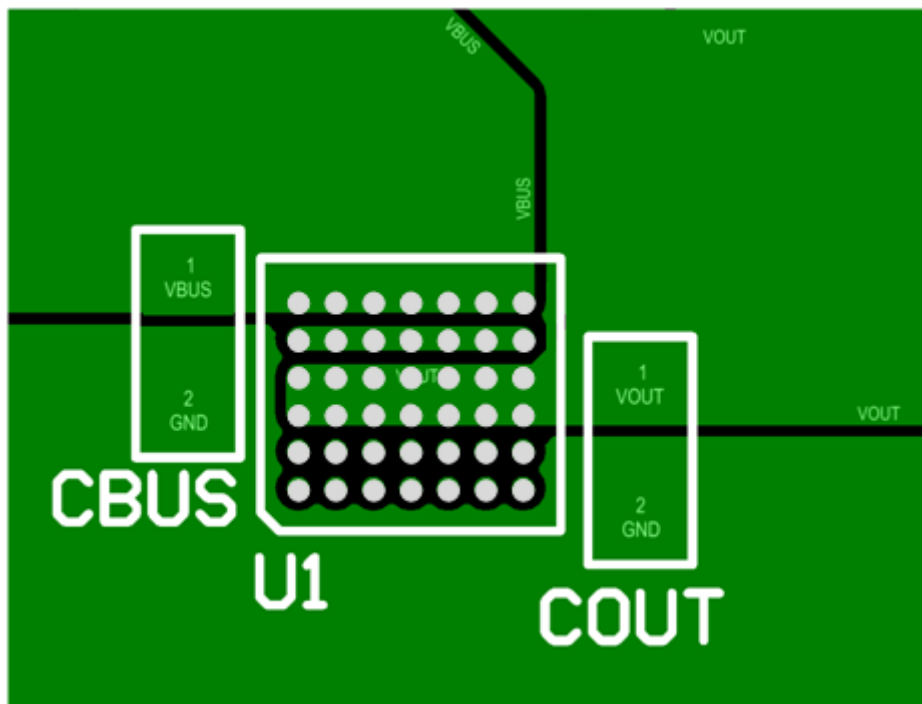

Figure 19. VBUS and VOUT Copper Top Layer Routing
- ♦ Follow the recommended placement for CBUS and COUT shown in Figure 19.